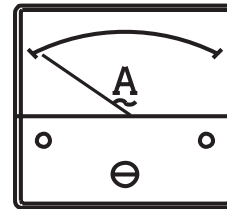

Figure 38. Ammeter (No Load)
- The ammeter (Figure 38) will indicate **zero amps** with no load applied. When a load is applied, the ammeter will indicate the amount of current that the load is drawing from the generator.